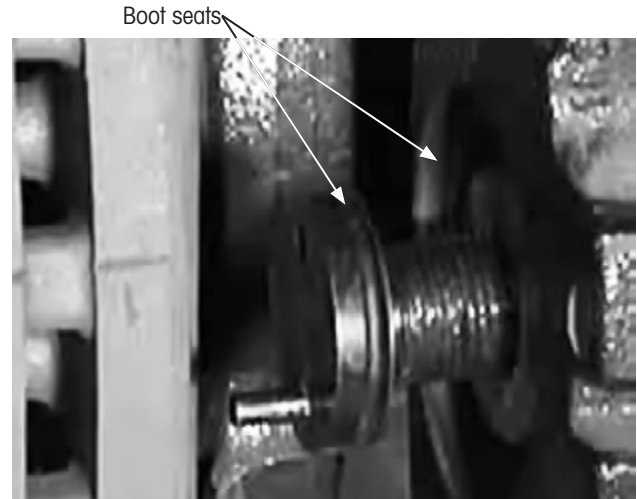
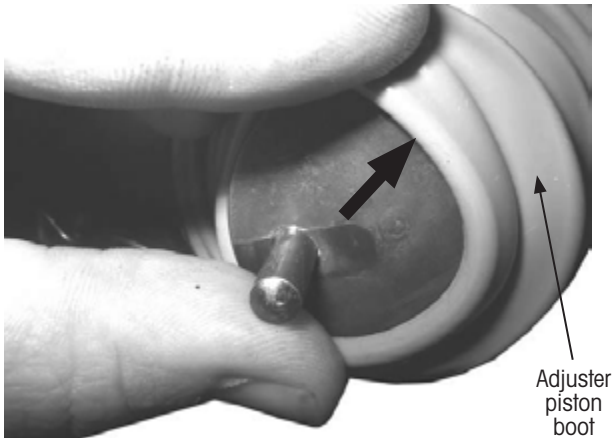

Figure 75: *Clean adjuster piston boot seats*
Figure 77: Seating adjuster piston boot edge
NOTICE: Do not use any sharp edged tools or metal brushes for cleaning. Ensure no dirt or moisture enters the brake when cleaning. The boot seats must be clean and free from grease (Figure 75).
12. **Clean** the adjuster piston boot seats (Figure 75).
13. **Grease** the thread of the adjuster piston (Figure 75).
14. **Manually turn** the adjuster piston (Figure 75) clockwise back into the brake caliper again. The adjuster piston pin must be in the same position as it was before it was screwed out, refer to Step 7.
3. **Lightly grease** the inner exposed edge of the adjuster piston boot (Figure 77).
4. **Insert** the edge of the adjuster piston boot into the adjuster piston seat (Figure 75 and Figure 77).